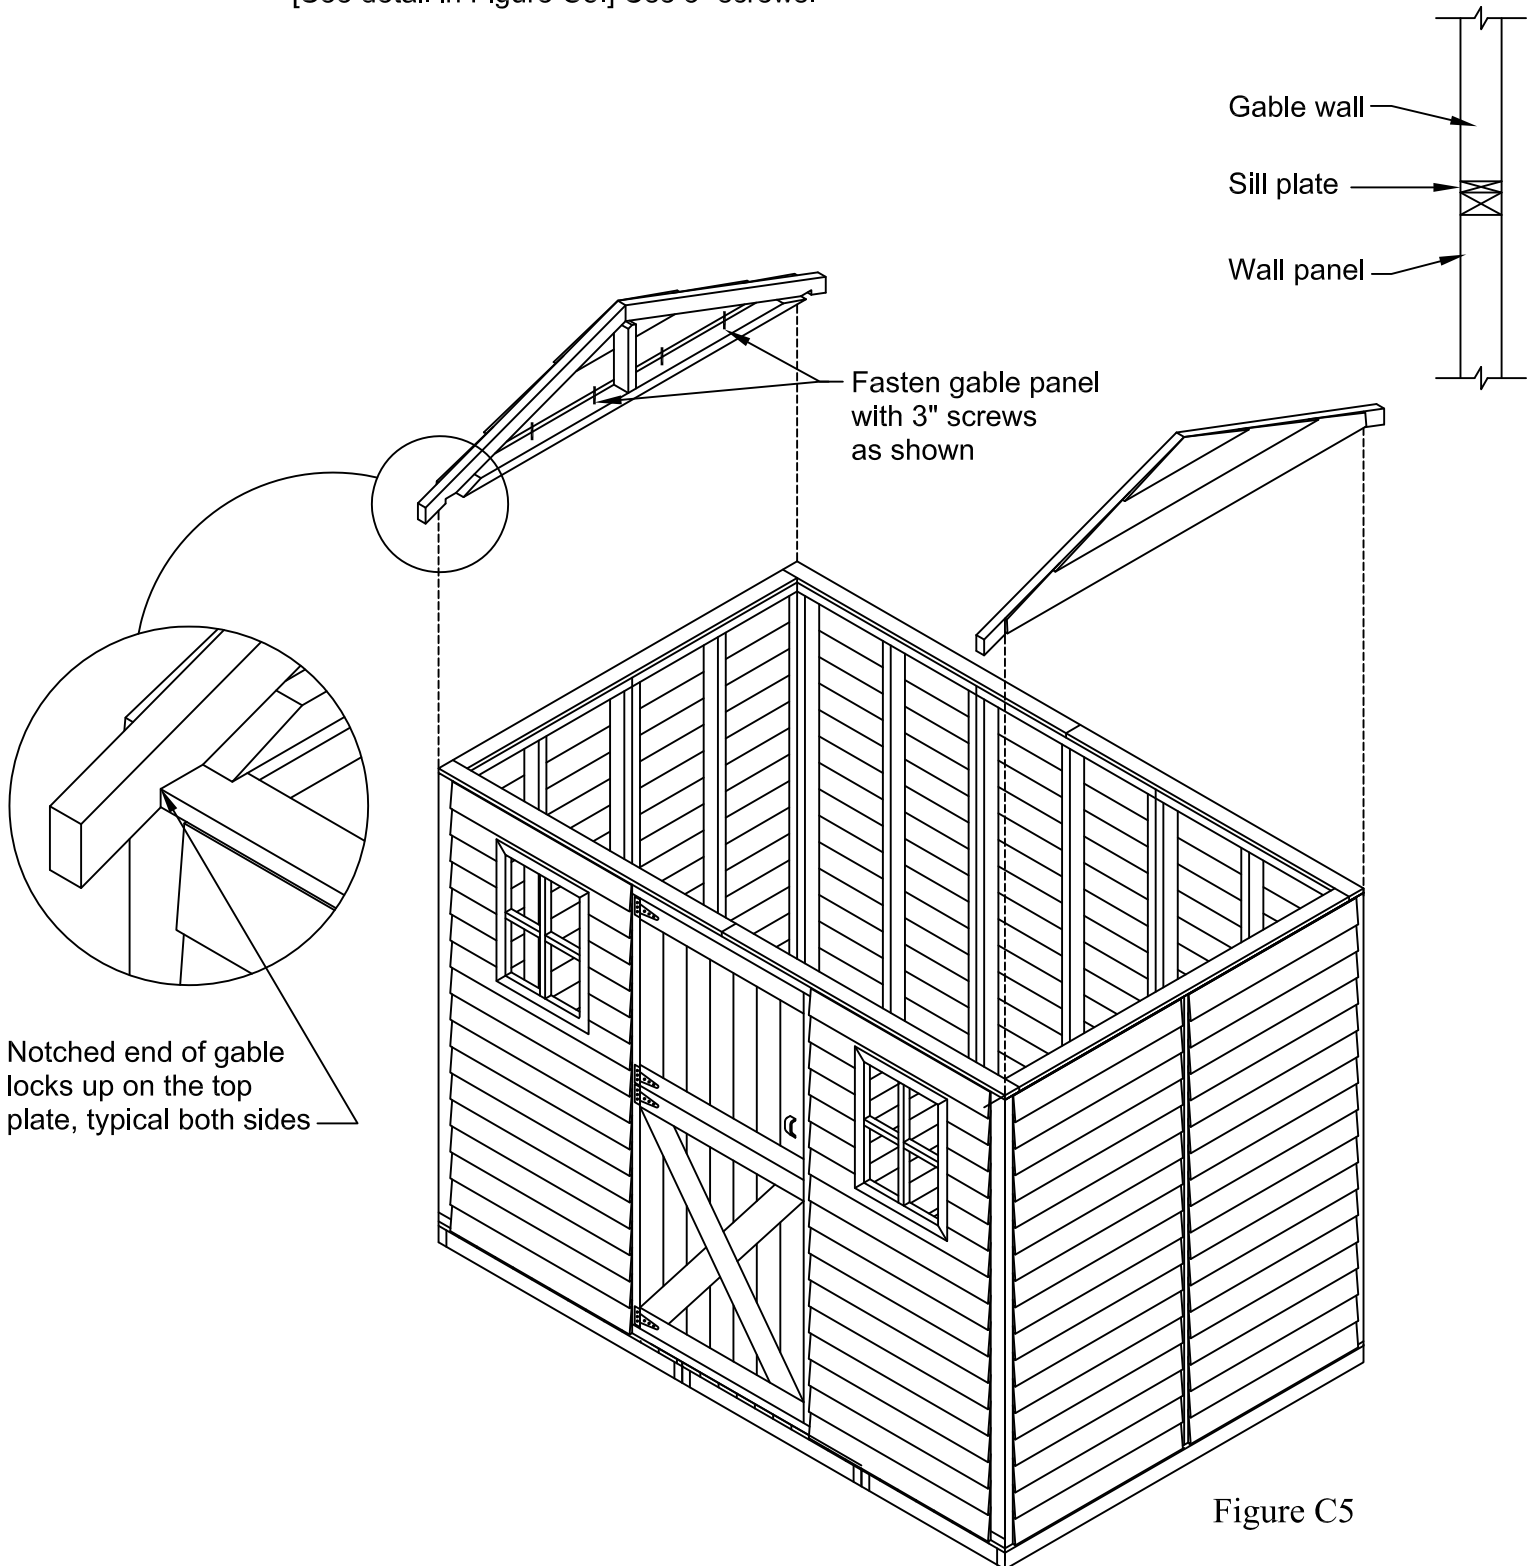

Figure C5
8. Position the gable wall on top of the top plate of the front and back of the Cabana. The 2x3 frame should sit flush on the 2x3 wall frame and 1x3 plate. [See detail in Figure C5.] Use 3" screws.